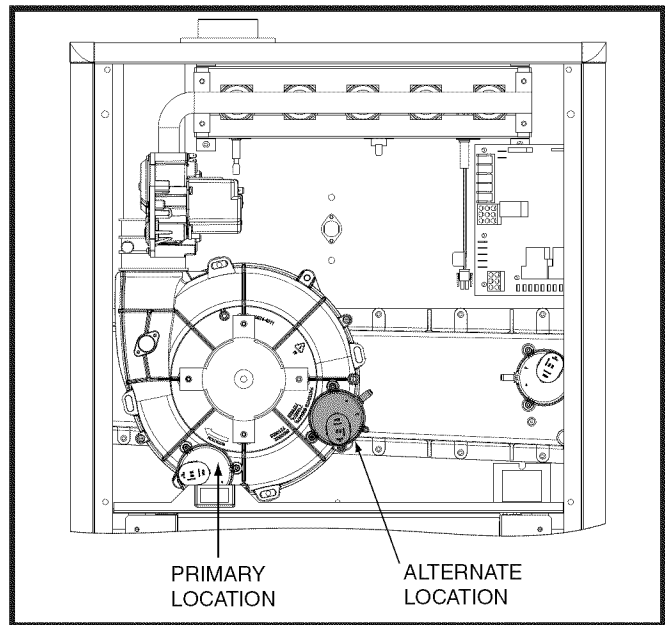

Figure 19. Alternate Pressure Switch Location
2. Label and disconnect the tubing and wires from the pressure switch (Figure 19).